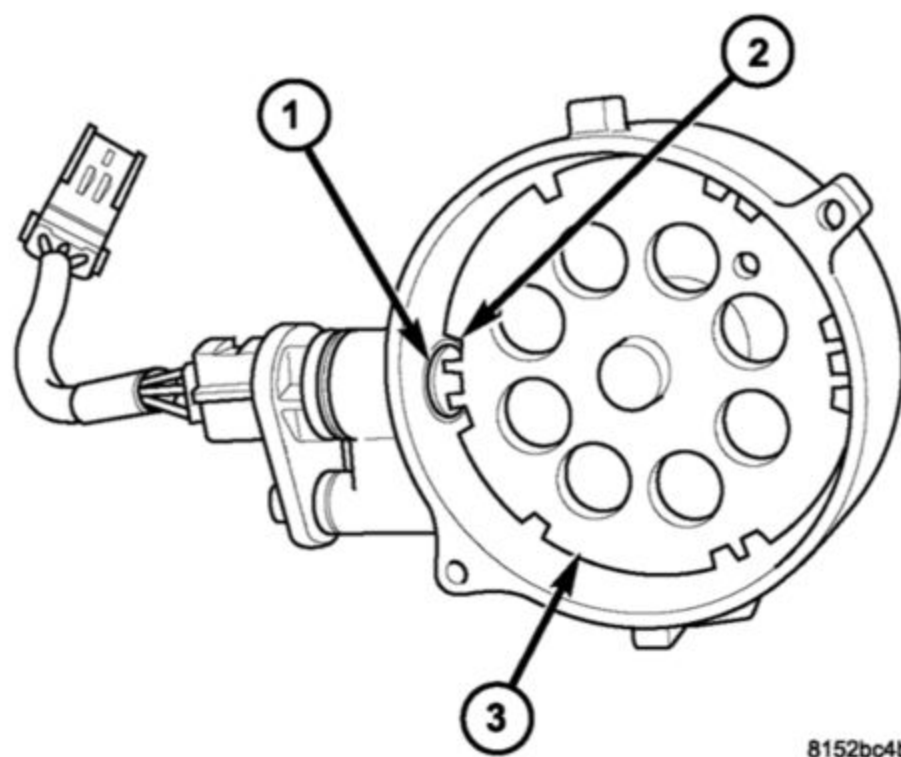

Fig. 12 4.0L CMP OPERATION
The CMP sensor (1) (Fig. 12) uses a rotating hall effect device called a target wheel (3) which is attached to the oil pump drive shaft. The target wheel contains sets of machined notches (2).